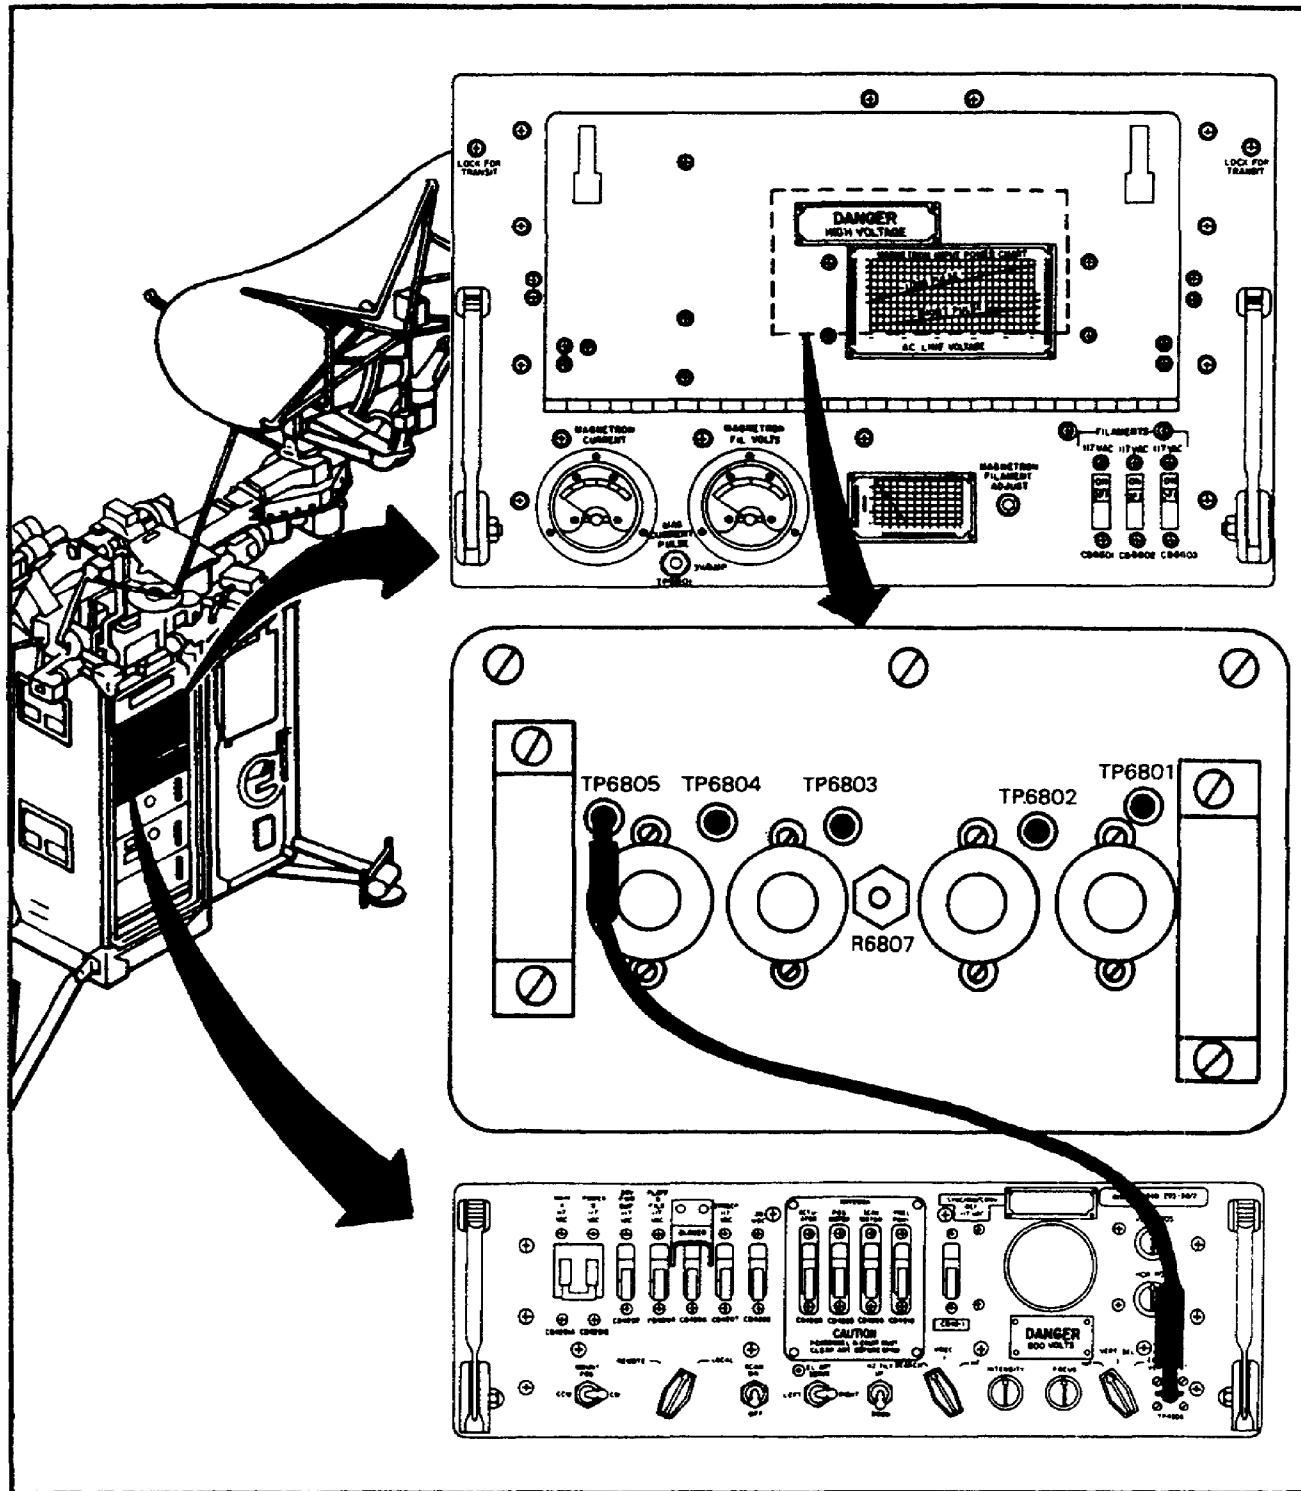

Figure 53. TP-4206 to TP-6805.
m. On control monitor C-2124/FPN-33, connect VERT input test point TP-4206 to B-trigger output test point TP-6805 on 0-1284/FPN chassis. (See Figure 53.)
- VERT input test point TP-4206 on control-monitor C-2124A/FPN-33 (Figure 53)